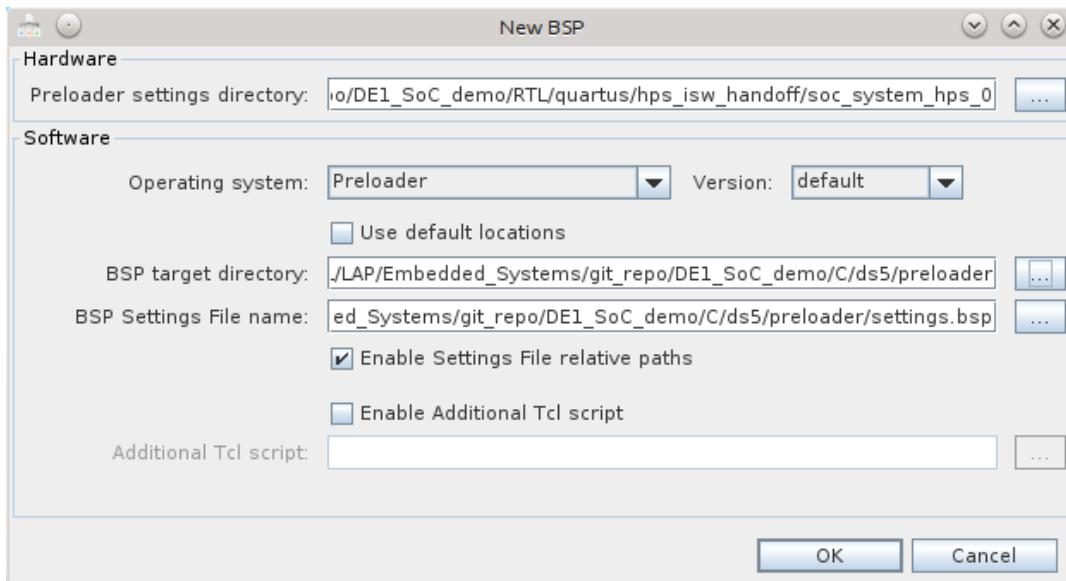

Figure 8-26. New BSP Dialog
- Disable the “Use default locations” checkbox and under the “BSP target directory”, select the “DE1\_SoC\_demo/C/ds5/preloader” directory. You should have something similar to Figure 8-26.